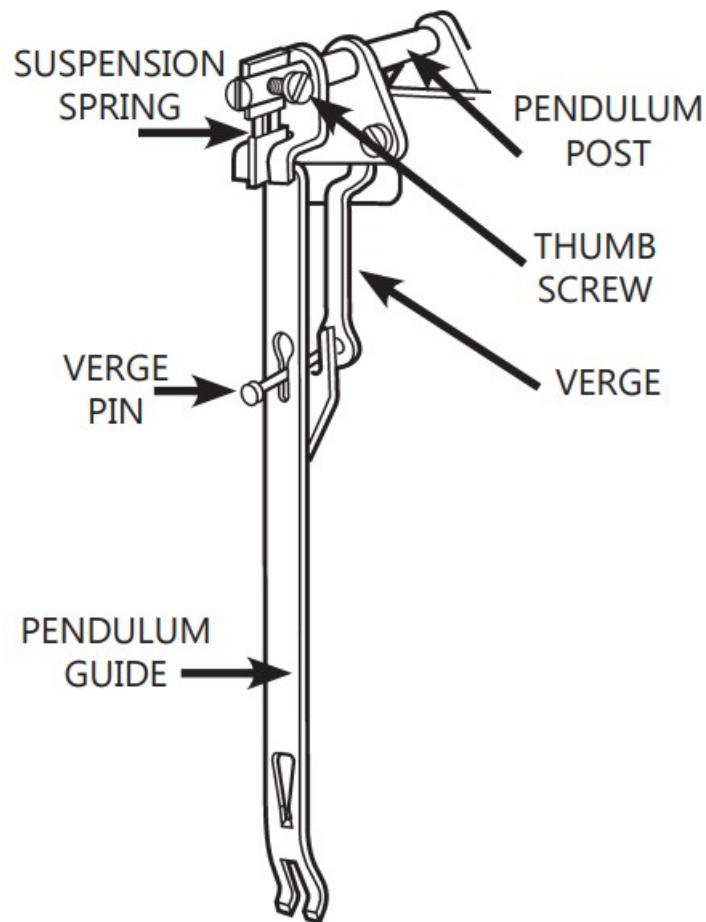

FIGURE 23
10. Did you remove the Styrofoam blocks before they became loose through normal operation? (typically occurs after eight (8) hours of run time)
11. Did you check the suspension spring? If it is damaged, it must be replaced. (See figure 23).
12. Is the verge pin properly located in the slots of the pendulum guide? If not, reposition the verge pin. (See figure 23).